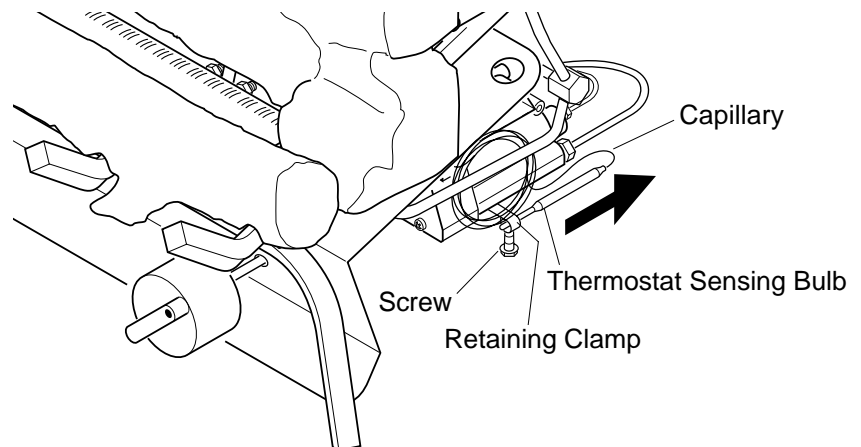

Figure 30 - Removing Thermostat Sensing Bulb
3. With 5/16" hex driver or socket, loosen the thermostat screw. Carefully slide the thermostat sensing bulb out of the retaining clamp (see Figure 30).